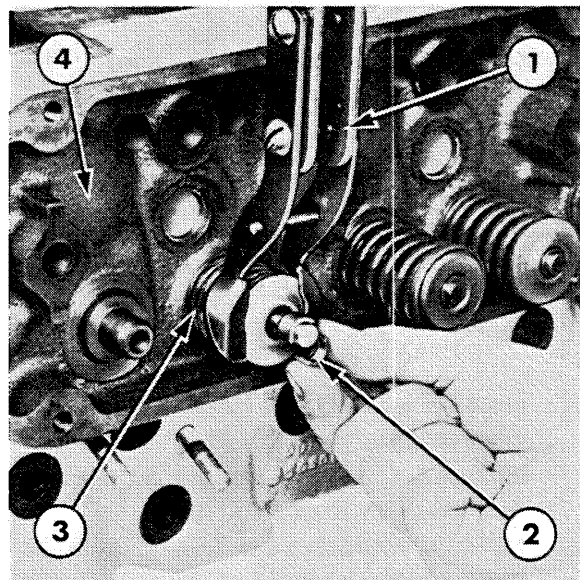
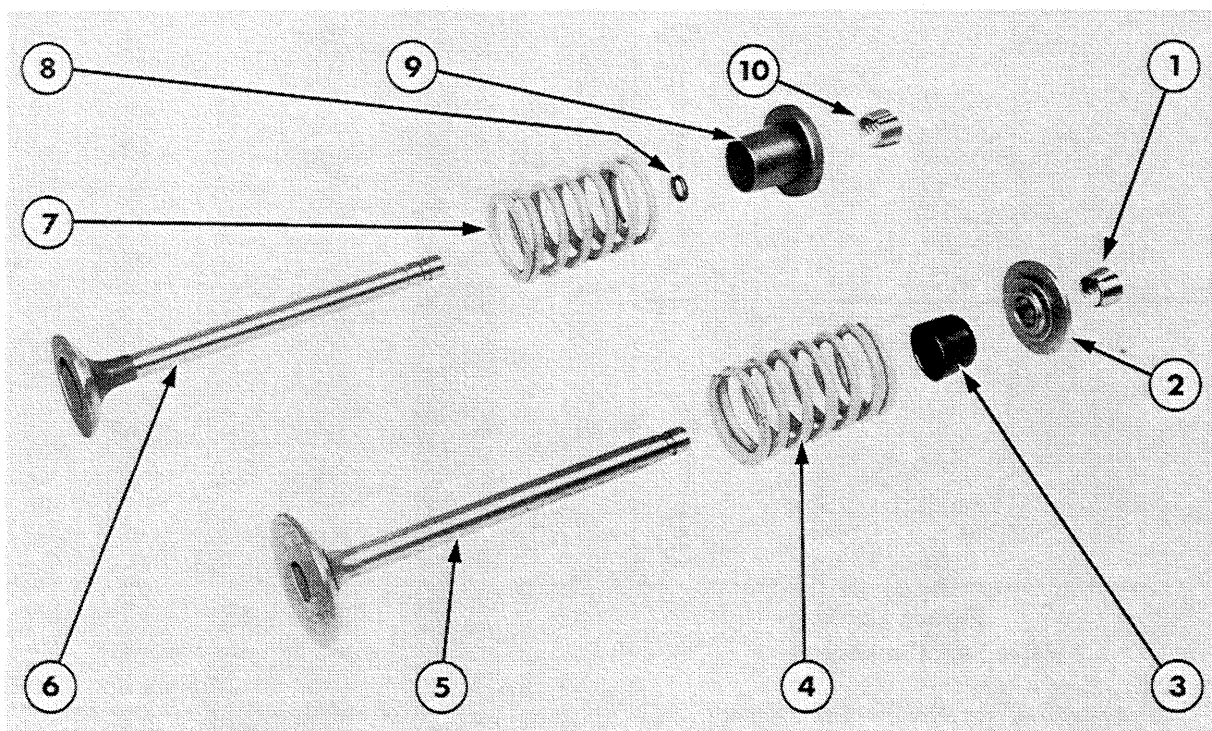

Figure 8
Figure 9
3. Using a valve spring compressor, Figure 8; remove the retainer locks, spring retainers/rotators, springs and seals from each valve, Figure 9.